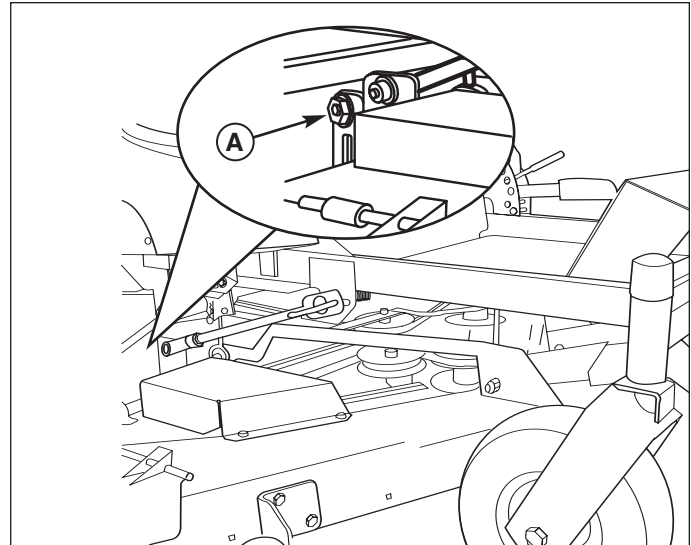

Figure 32. Roller Bar Leveling
5. Locate the roller bar leveling eccentric and locknuts (A, Figure 32). Loosen the locknut and turn the eccentric to raise or lower a side. When the correct level is achieved, hold the eccentric with a wrench and tighten the locknut. Repeat step 4 if necessary.